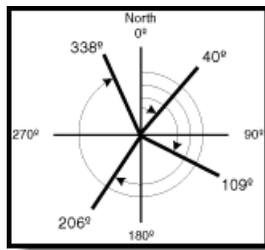

Figure 154: ArcMap North Azimuth
- In the north azimuth system, the azimuth of a line is the horizontal angle measured from a meridian to the line, measured in the clockwise direction from north, as depicted in Figure 154.